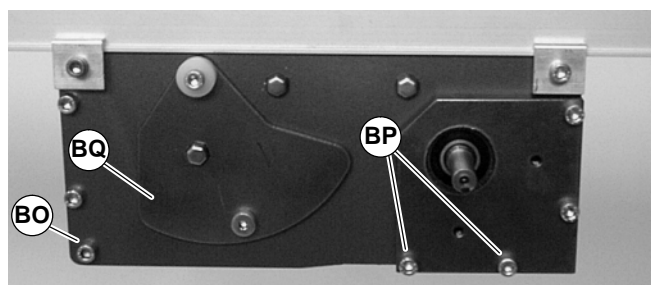

Figure 35
10. Tighten corner screws (BO of Figure 35) on each side of the drive module to 9 Nm.
12. Re-install tension door screws (BP of Figure 35) on each side of the module. Tighten screws to 9 Nm.